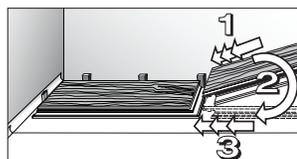

Figure 3
- **Tramex Concrete Moisture Encounter Meter** (Figure 1): Moisture readings should not exceed 4.5 on the upper scale. (Figure 3 shows an unacceptable reading of over 4.5) Concrete Moisture Meters give qualitative reading results-not quantitative ones. These results are a quick way to determine if further testing is required.
- Install second and subsequent full pieces in the first row by aligning short ends of boards and locking into place (Fig. 3).
- Use spacers along all sides that butt up against walls to maintain a 1/4" (6.35 mm) expansion zone (Figs. 3 & 4).